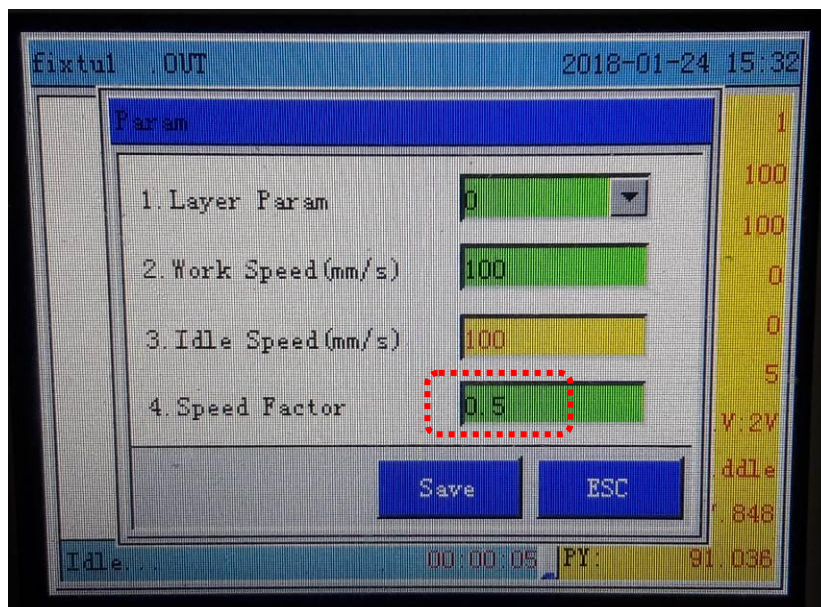

Figure 7 Operating panel on the machine
- 12. Setup Speed Factor = 0.1 ~1 to cut smoothly; otherwise, setup Speed Fator >1. ( Figure 7 )